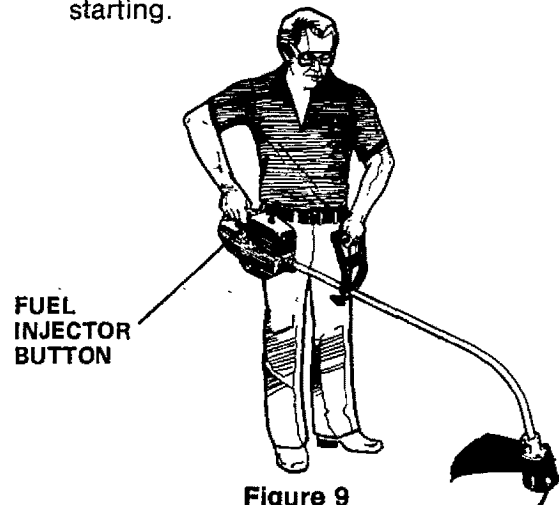

Figure 9
- Stand in the operating position, and place the cutting head on the ground. Figure 9. This insures that fuel will flow into the injector pump.